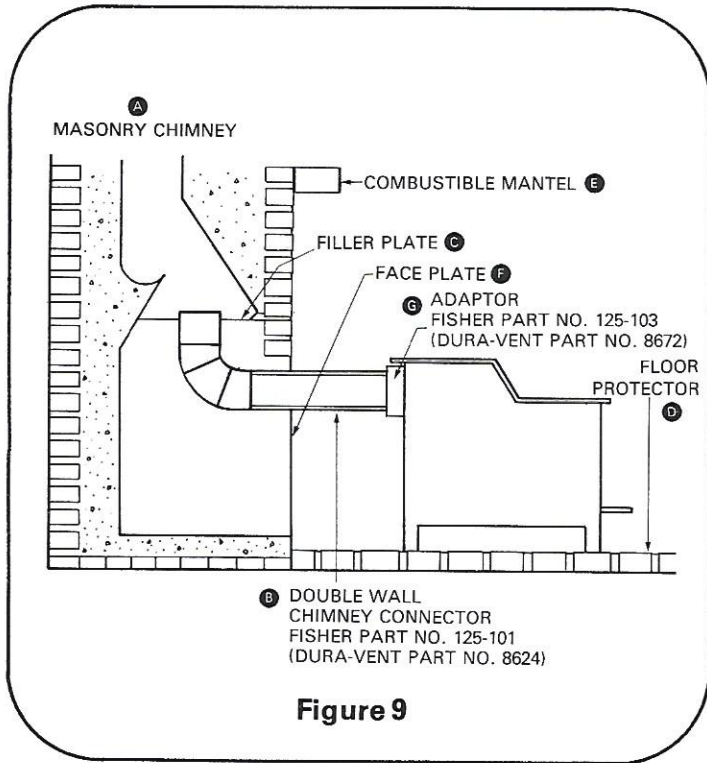

Figure 9
8. Secure the filler plate to the masonry walls using appropriate anchors and screws. Joints between the masonry fireplace and the filler plate must be sealed using furnace cement. (A cardboard template or pattern may be used to determine the actual size and shape of the filler plate.) (See Figure 9.)
9. Install the double wall chimney connector. (See Figure 9.)